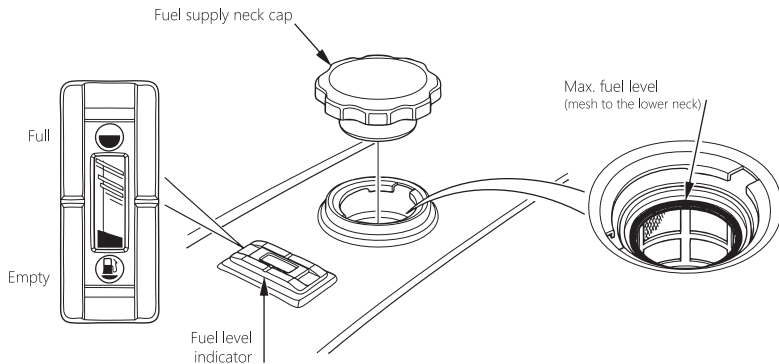

Fig. 2. Fuel tank fragment (fuel supply neck and fuel level indicator)
- Check the level of fuel in the tank (Fig.2).
- If the level is low, refill with untreated gasoline to the level, set out in Fig.2.